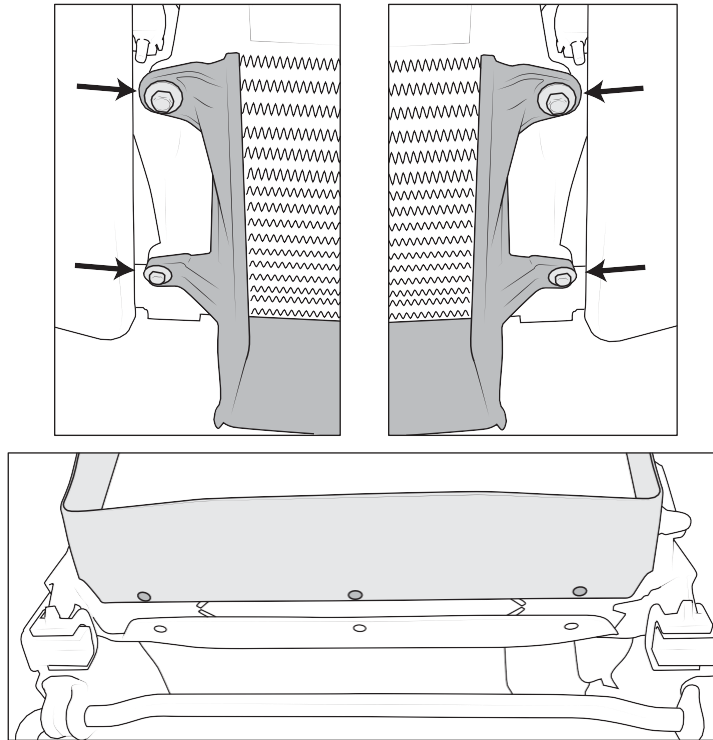

Figure 6
6. For Diesel Trucks: Remove the front intercooler shroud. **SAVE** hardware for later use (fig. 6).